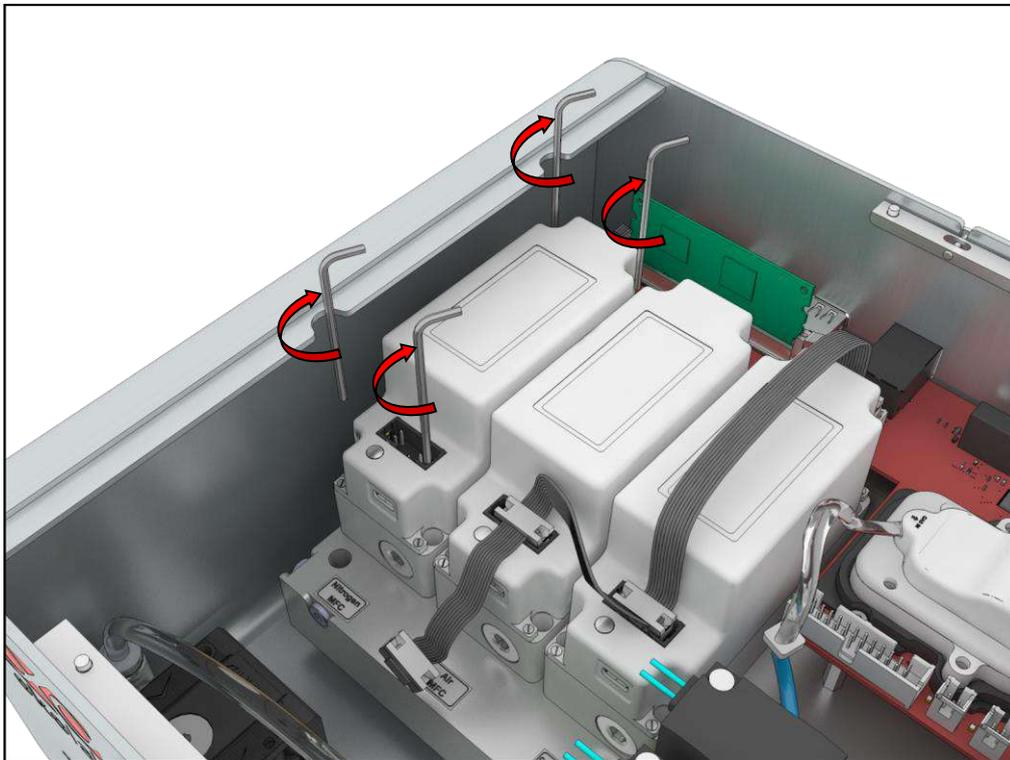

Figure 135. How to thread the Mass Controller screws
5. Turn the screws sequentially until the screws are fully tightened simultaneously (see Figure 135). Make sure to tighten the screws until the end stop is reached (Almost 4 -5 turns are necessary).